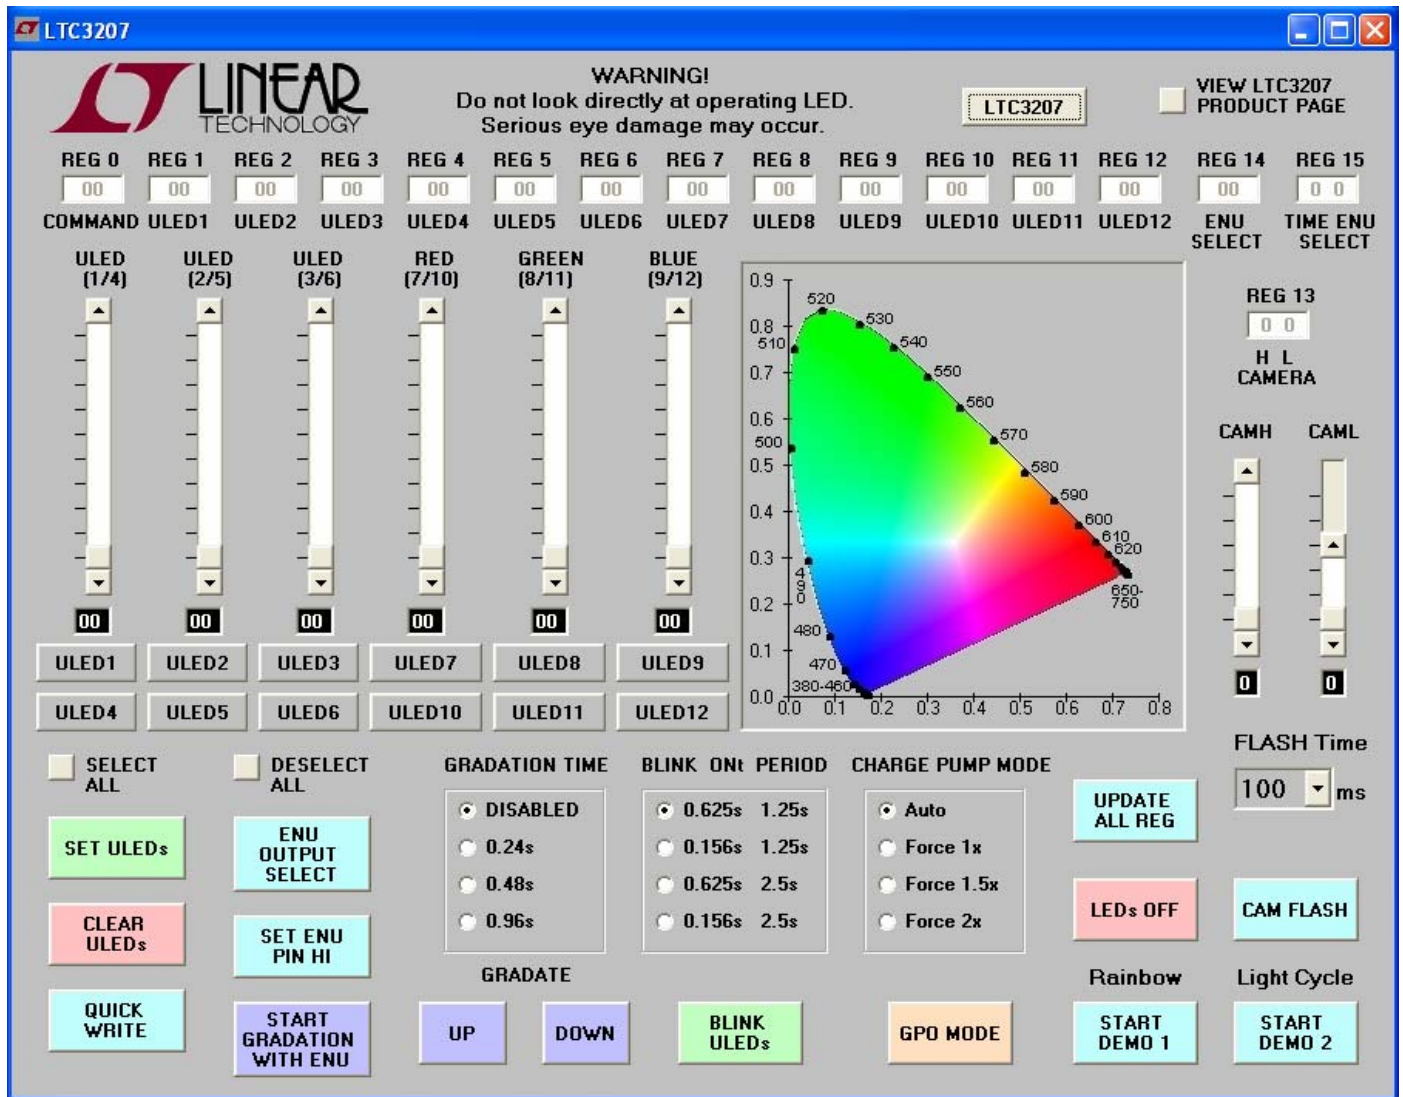

Figure 3. LTC3207 Control Window
6. Run the QuikEval program. The program detects the DC1039 and displays the LTC3207 control window (shown in Figure 3).